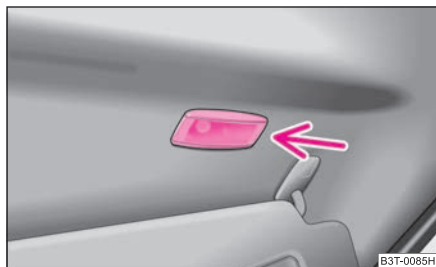

Fig. 228 Lighting for vanity mirror
- Insert a narrow screwdriver into the slot ⇒ **fig. 228** and carefully take out the light.